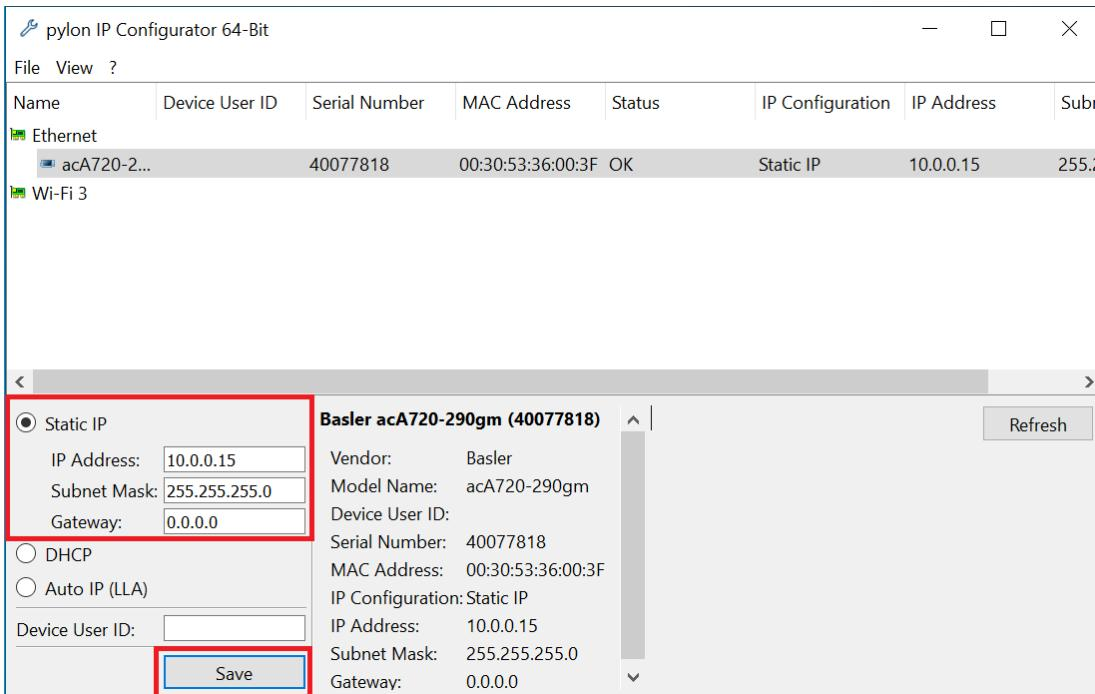

Figure 8: Set the IP address of the camera
2. Select the camera device. Click Static IP. Set the IP address to 10.0.0.15 (or any address of the form 10.0.0.y where y ≠ x chosen above), the subnet mask to 255.255.255.0, and the gateway to 0.0.0.0. Click Save to save these settings to the camera. See Figure 8.